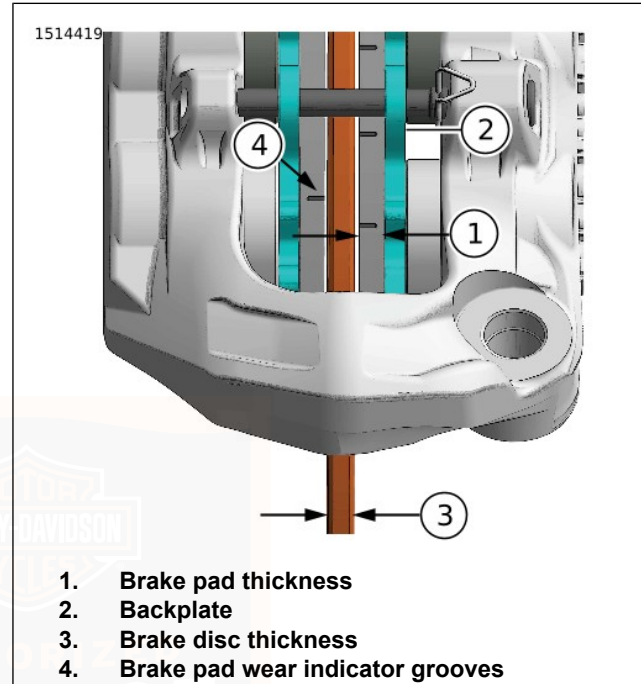

Figure 57. Brake Thickness
2. See Figure 57. Measure the thickness of the brake pad friction material.